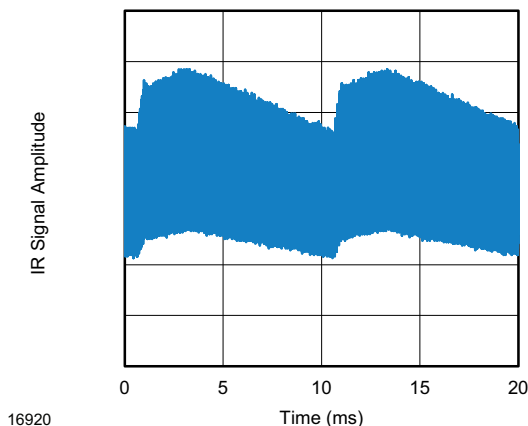
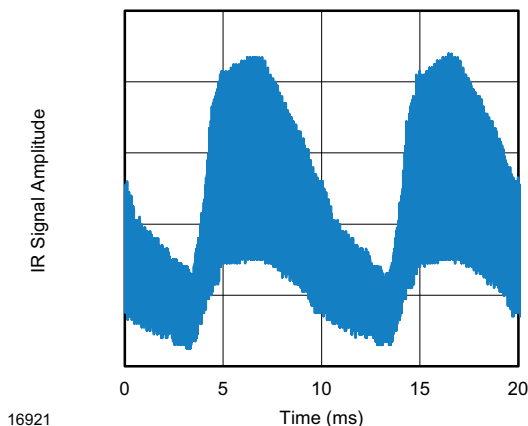

Fig. 13 - IR Emission from Fluorescent Lamp With Low Modulation
Fig. 14 - IR Emission from Fluorescent Lamp With High Modulation
- Strongly or weakly modulated patterns from fluorescent lamps with electronic ballasts (see Fig. 13 or Fig. 14)
Suppression of interference from fluorescent lamps	Fig. 13 and Fig. 14